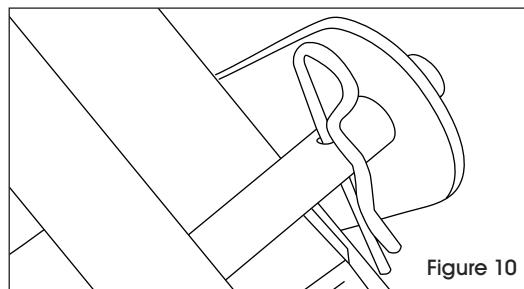

Figure 10
14. Insert cotter pin through hinge bar hole near the right hinge bracket. (See Figure 10)